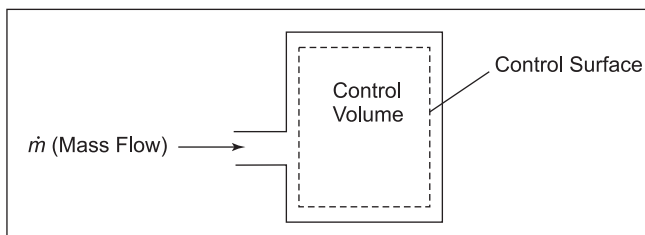

Figure 1.8 Control volume
7. **Control volume:** When the volume of the system is fixed, it is called control volume. An example is an open system (Figure 1.8).